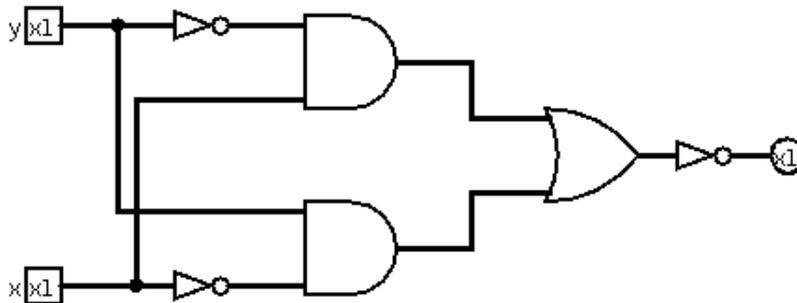

Figure 2: An XNOR gate created from AND, OR, and NOT gates.
- Connect wires by dragging out from each input/output point as in Figure 2